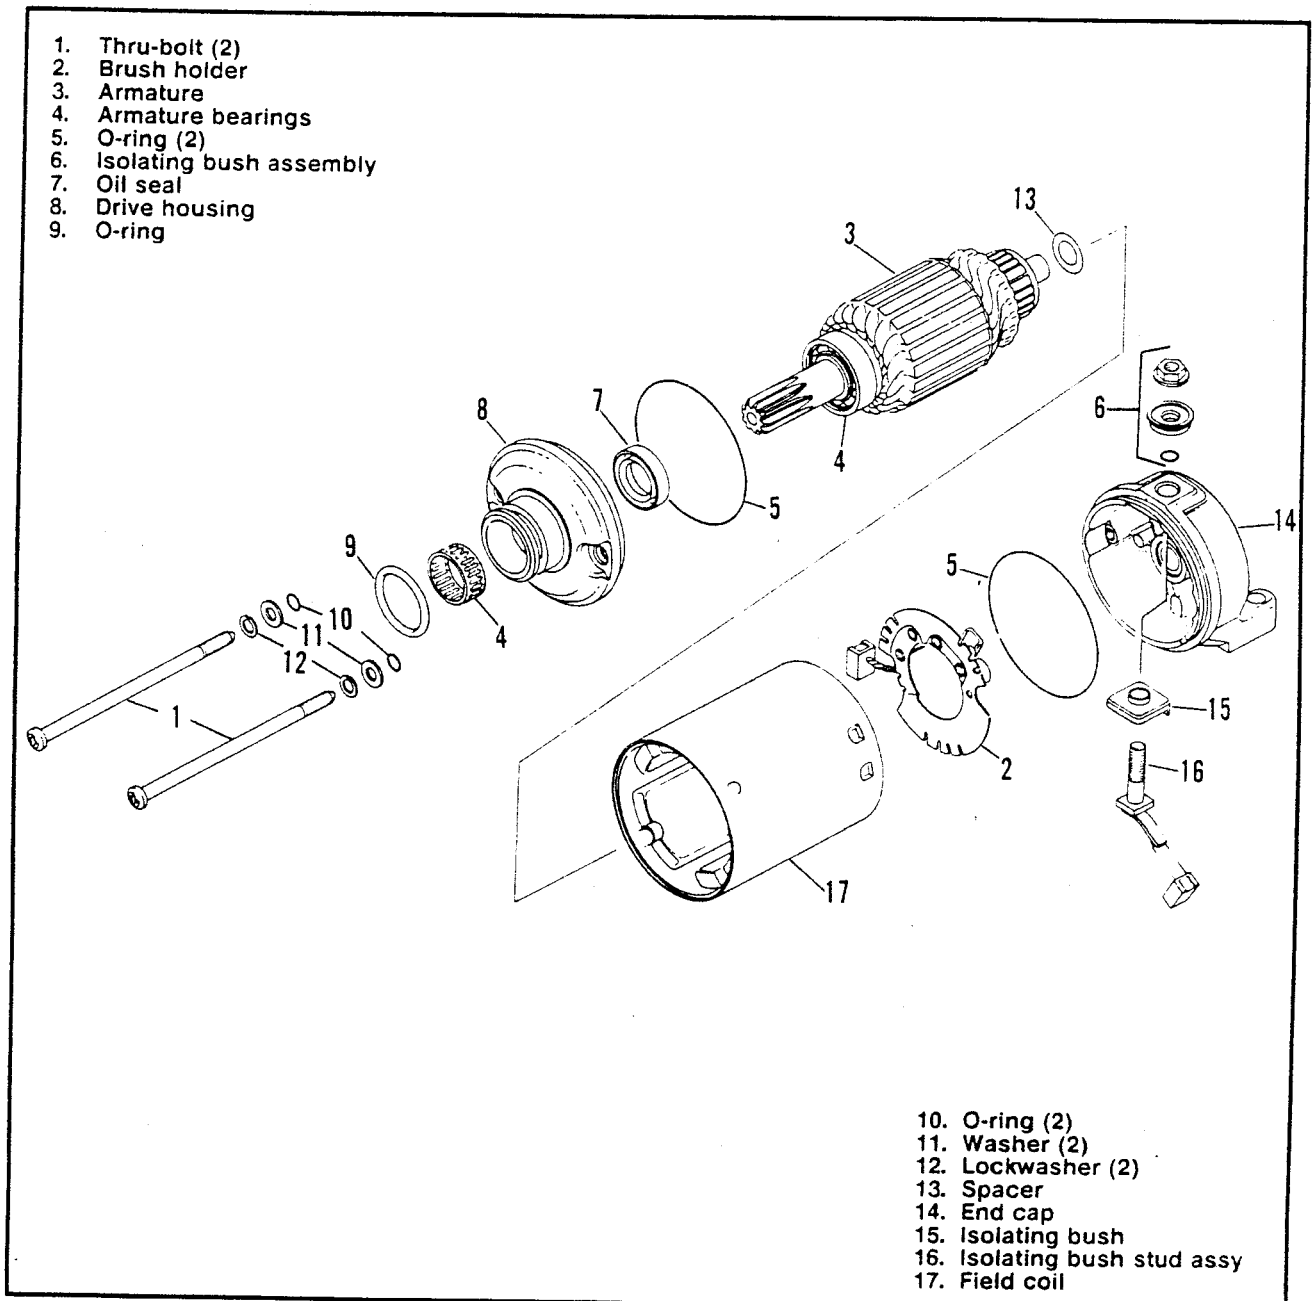

Figure 4-32. Electric Starter
2. See Figure 4-32. Disassemble by unscrewing the two thru bolts (1).
3. If the brushes are severely worn, a new brush assembly (2) should be installed.